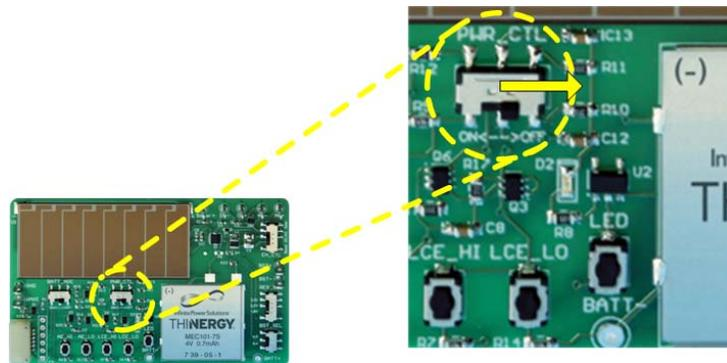

Figure 4: PWR_CTL “Off”, Regulator Output Disabled
The LDO regulator output is disabled when the PWR_CTL switch is in the “Off” position (Figure 4 below). This pulls the Active Enable (AE) and Low-Current Enable (LCE) pins on the MAX17710 low, disabling the regulated output. Refer to Reference [2] for details on the operation of the MAX17710.